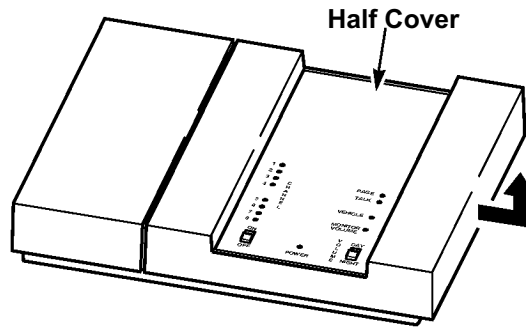

Figure 21.
1. Pull outward on the right side of the base station half-cover and then lift and remove the cover. See Figure 21.